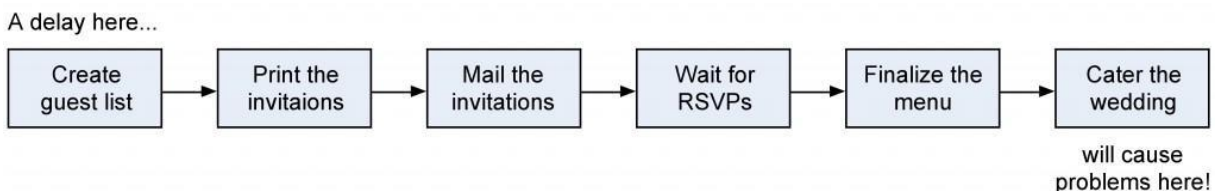

Figure 10.1: An example of problems that can be caused within the critical path.
The reason that the critical path is critical is that every single activity on the path must finish on time in order for the project to come in on time. A delay in any one of the critical path activities will cause the entire project to be delayed (Figure 10.1¹).
1. Figure 10.1: Illustration from Barron & Barron Project Management for Scientists and Engineers, <http://cnx.org/content/col11120/1.4/>